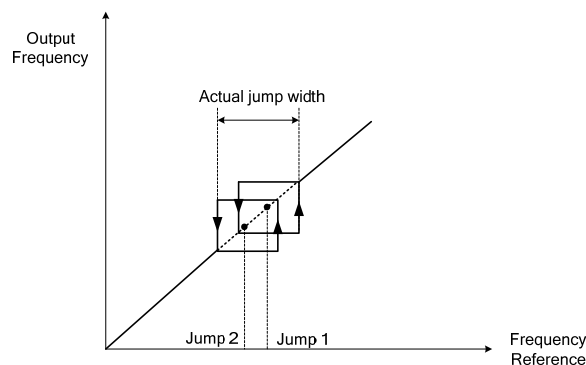

Figure 4.3.87 Jump frequency overlap
- When jump frequency overlap the sum of the overlapped jump frequencies will be used as the jump frequency range. Refer to figure 4.3.87